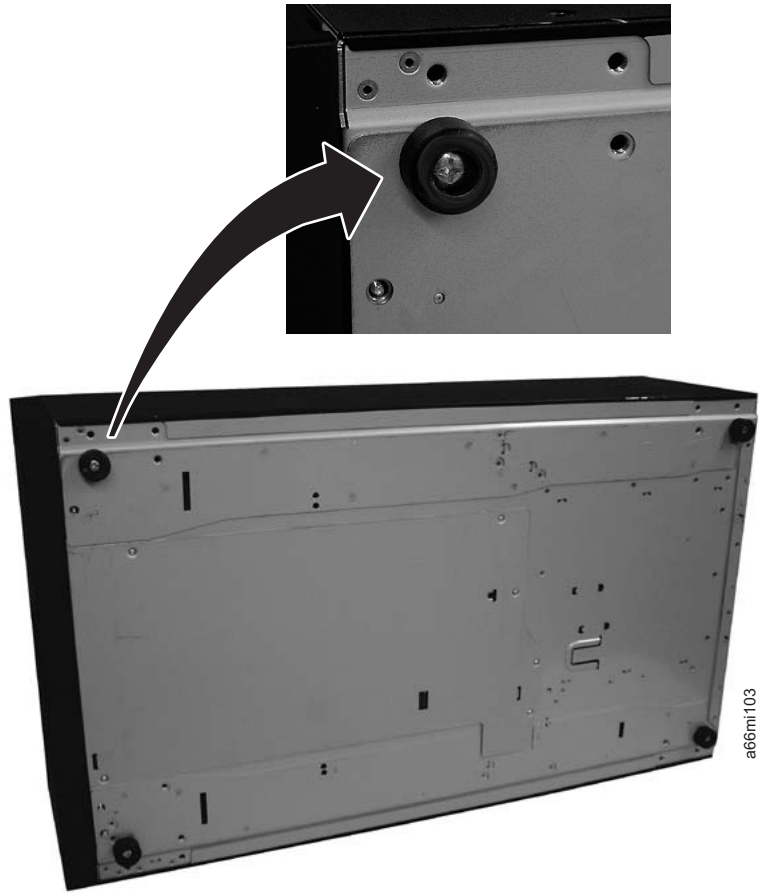

Figure 12-48. Foot pad Locations
2. Using a #2 Phillips screwdriver, install the foot pads on the bottom of the library chassis. See Figure 12-48 on page 12-55 for foot pad locations.